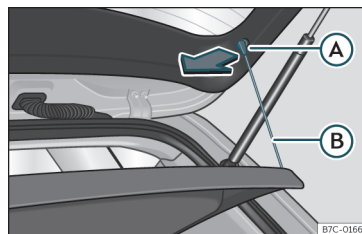

Fig. 110 In the luggage compartment: removing and fitting the shelf.
- Detach the cord loops»» Fig. 110 (B) from their hooks (A).
- Hook the loops»» Fig. 110 B to the rear lid.